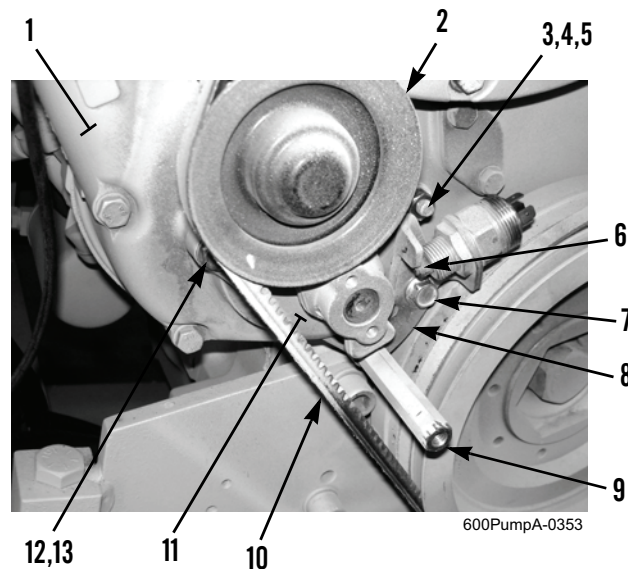
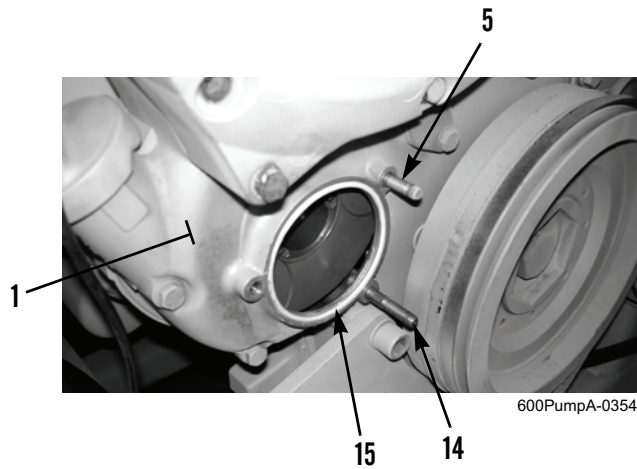

Figure 1. Tensioner Pulley Assembly - Installed View.
Figure 2. Studs and O-ring at Front Cover.
1. Push inward and upward on pulley (Figure 1, Item 2) to release tension on cooling fan V-belt (Figure 1, Item 10) and remove cooling fan V-belt.
2. With plunger (Figure 1, Item 6) depressed, slowly lower pulley (Figure 1, Item 2) to stop bracket (Figure 1, Item 8).
3. Remove bolt (Figure 1, Item 7) from stop bracket (Figure 1, Item 8).
4. Remove nut (Figure 1, Item 3) and washer (Figure 1, Item 4) from stud (Figure 1, Item 5).
5. Remove screwed bush (Figure 1, Item 9) and stop bracket (Figure 1, Item 8) from V-belt tensioner pulley assembly (Figure 1, Item 11).
6. Remove bolt (Figure 1, Item 12), washer (Figure 1, Item 13), and V-belt tensioner pulley assembly (Figure 1, Item 11) from engine front cover (Figure 1, Item 1).
7. Remove O-ring (Figure 2, Item 15) from engine front cover (Figure 2, Item 1). Discard O-ring.
Stud (Figure 2, Item 14) may have been removed when screwed bush (Figure 1, Item 9) was removed.
8. If necessary, remove studs (Figure 2, Items 5 and 14) from engine front cover (Figure 2, Item 1).